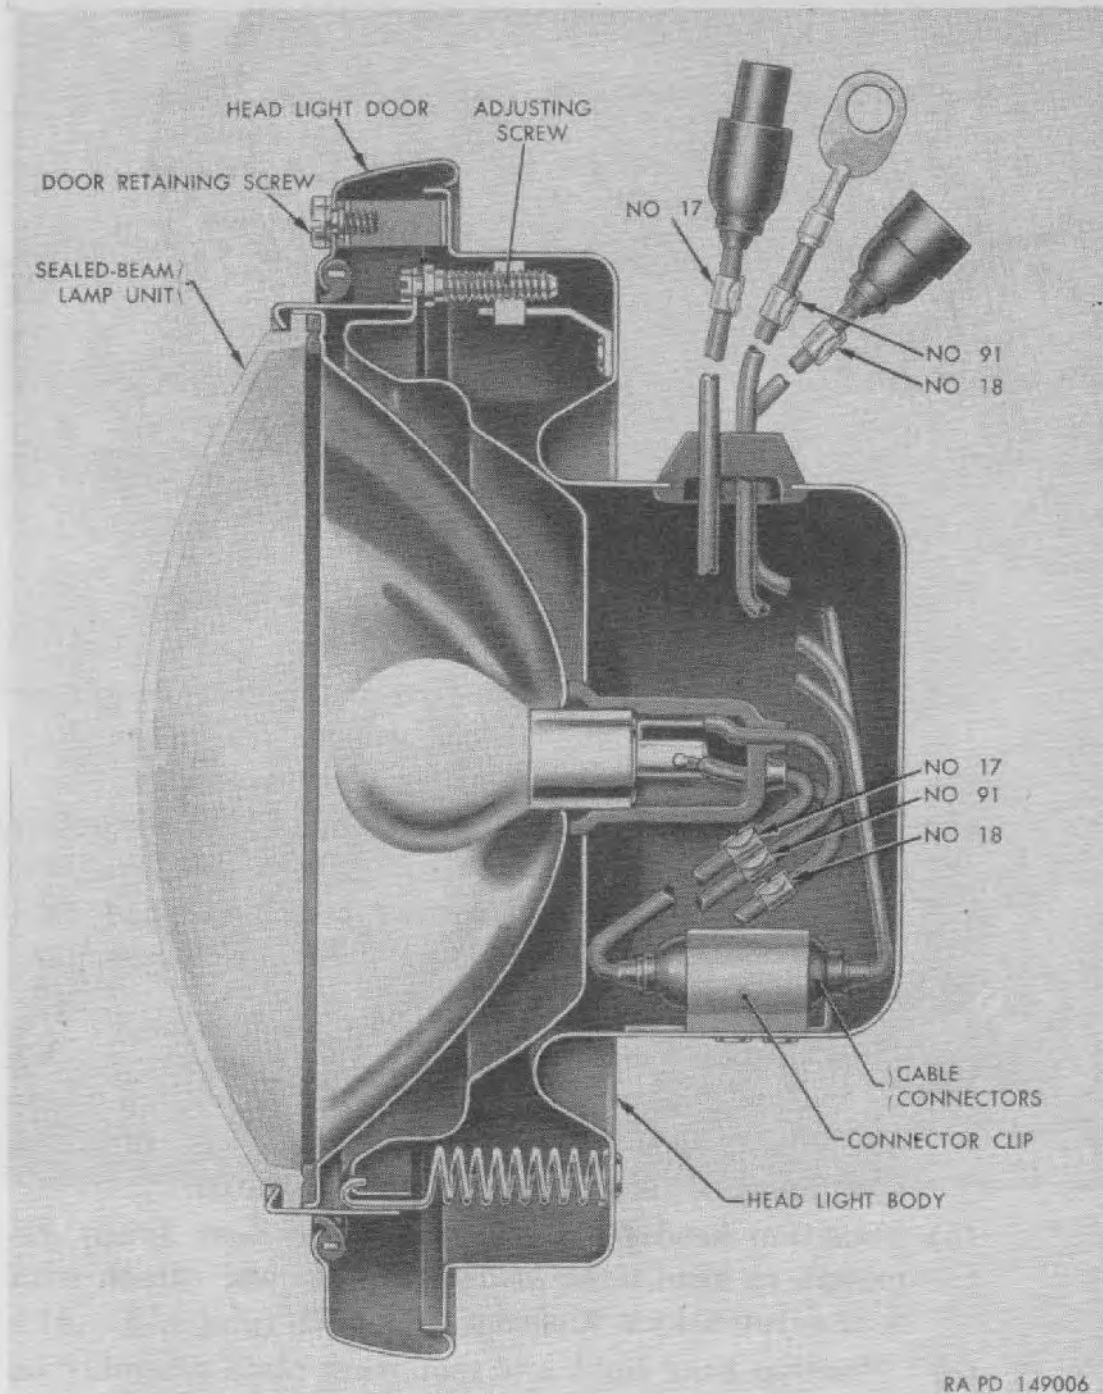

Figure 84. Sectional view of head light.
(1) Removal (fig. 84).
(2) Installation (fig. 84).